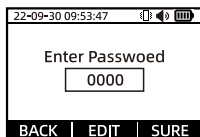

Figure 25
Select the system restore icon in the main menu interface of the detector, press the middle button to enter the password input interface (as shown in Figure 25), enter the password "1111" and then press the right button (OK) to enter the system restore interface (as shown in Figure 26), press the left button to return to the upper page; press the right button to restore the factory settings, after the recovery is successful, a pop-up "setting is successful!" prompt box (Figure 27).